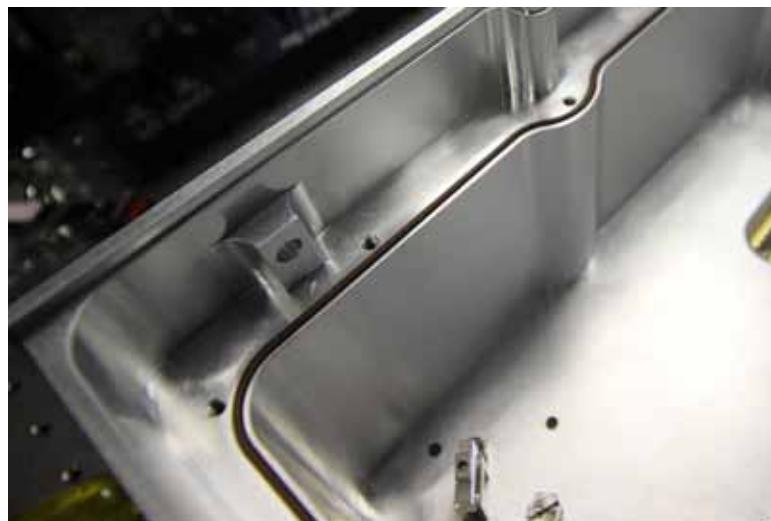

Figure 4.8-8. O-Ring Seal
9. Check the O-ring seal is seated well (Figure 4.8-8).